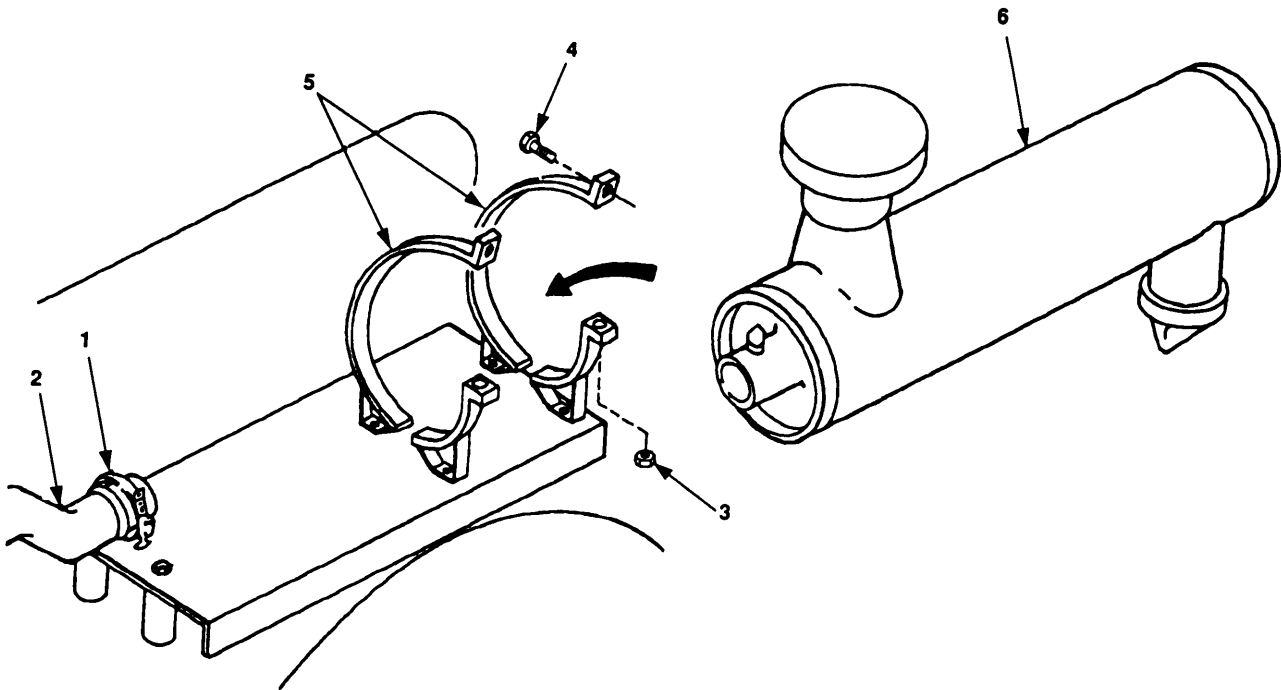

Figure 4-8. Air Cleaner Removal and Installation.
- a. Loosen clamp (figure 4-8, 1) from manifold and remove hose (2).
- b. Remove nuts (3) and screws (4) securing the clamps (5).
- c. Open the clamps (5) and remove air cleaner assembly (6).
- a. Install secondary filter (7) into air cleaner housing (2).
- b. Thread wing nut (6) on to shaft and tighten.
- c. Install primary filter (5) into air cleaner housing (2).
- d. Thread wing nut (4) on to shaft and tighten.
- e. Install cover (1) tighten wing nut (3).
- a. Open clamps (figure 4-8, 5) and position air cleaner assembly (6).
- b. Position clamps (5) around air cleaner assembly (6) and install screws (4) and nuts (3).
- c. Position hose (2) and clamp (1) on air cleaner assembly (6).
- d. Tighten clamp (1) to secure hose (2) to manifold.
- e. Tighten nuts (3) to secure air cleaner assembly (6).